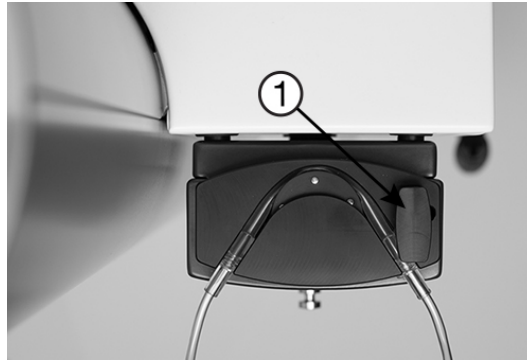

Figure 20 – Locking the pump head
Lock the pump head by turning the handle (1) clockwise – see Figure 20.